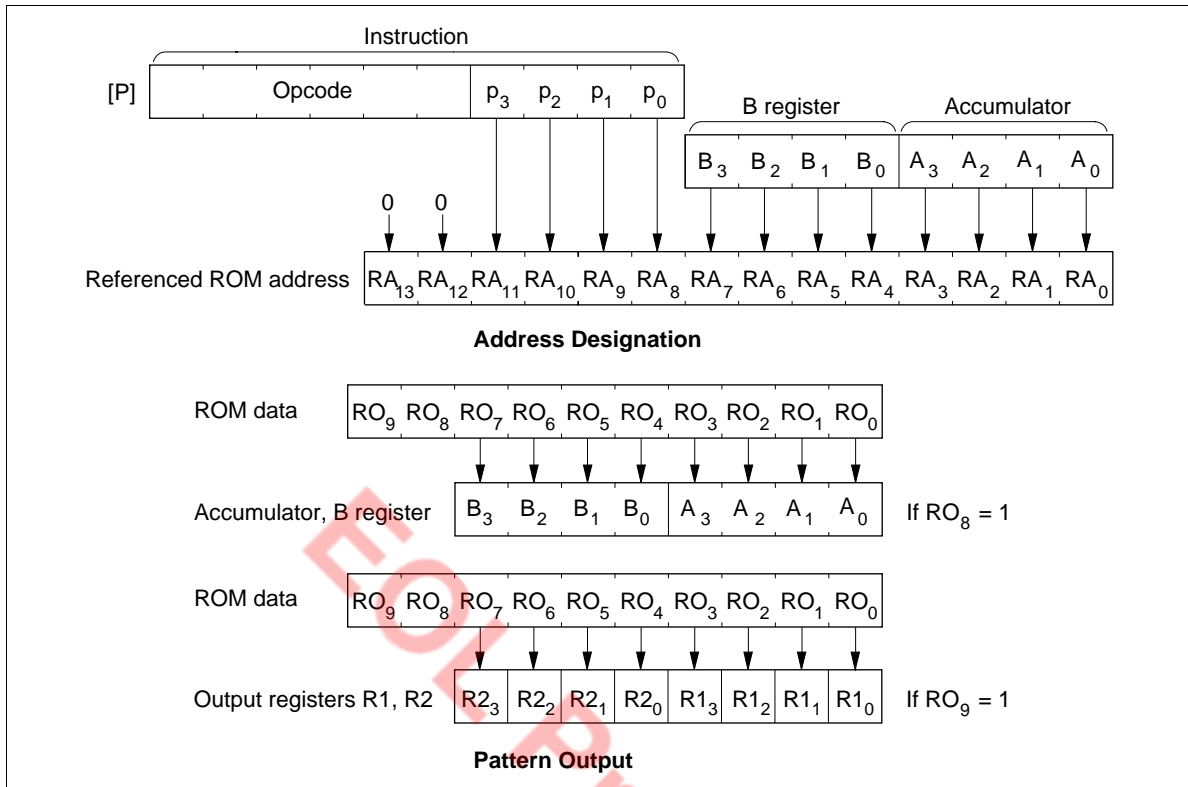

Figure 82 P Instruction
**P Instruction:** ROM data addressed in table data addressing mode can be referenced with the P instruction as shown in figure 82. If bit 8 of the ROM data is 1, eight bits of ROM data are written to the accumulator and the B register. If bit 9 is 1, eight bits of ROM data are written to the R1 and R2 port output registers. If both bits 8 and 9 are 1, ROM data is written to the accumulator and the B register, and also to the R1 and R2 port output registers at the same time.